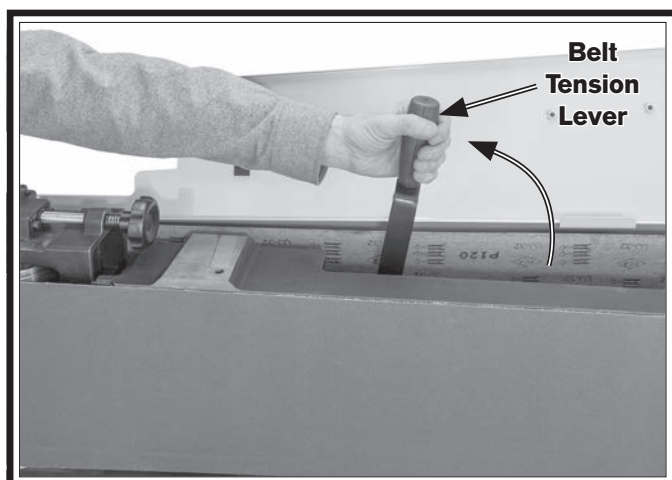

Figure 25. Belt tension lever moved up toward idler roller.
4. Move belt tension lever up and toward idler roller (see **Figure 25**).